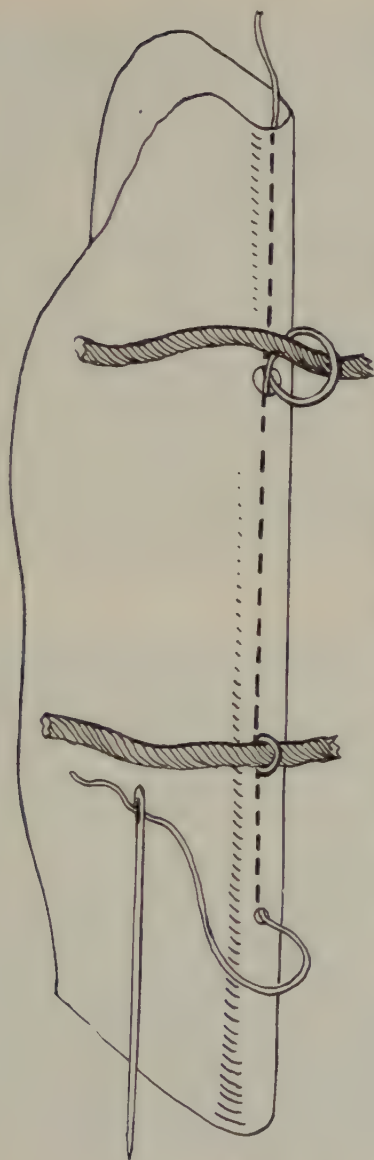

FIG. 177—METHOD OF SAWING WITHOUT SAWING-IN FOR BANDS
To the Teacher—There are many variations in hand sewing. If the student is able to follow instruction easily it may be well to instruct and allow a practice project or two in sewing alone, in a variety of styles. One surely should be attempted, that of marking off for bands and kettle-stitches as in this project, but *without* sawing-in for bands or kettle-stitches. To do this run cords on outside of sections, mark cord positions as well as for kettle-stitches and sew as in this project *with the exception* that thread led in at (A) comes out at *left side* of cord (B), passes around cord *outside* and in again at right side of cord and so along to (C), (D), (E), and (F). Kettle-stitches are made as in this project. (See Fig. 177.)